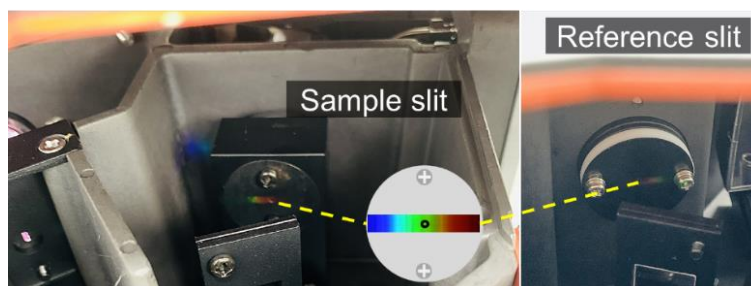

Figure 18. The exact position of the spectrum on the sample focus slit.
- c. While moving the grating to left and right side slightly, adjust the grating position so that spectrum is positioned at the sample focus slit and reference slit (see Figure 18).